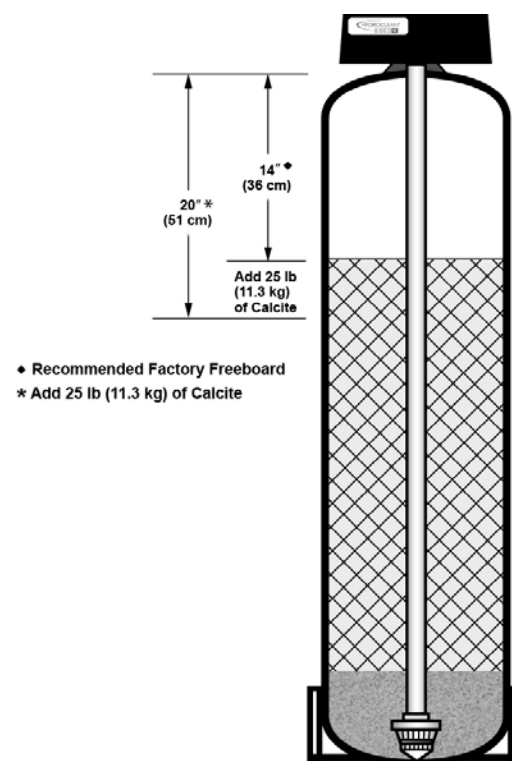

Figure 6: Max Freeboard Amount
- A. Measure the freeboard distance from the top of the tank to the media. See Figure 6.